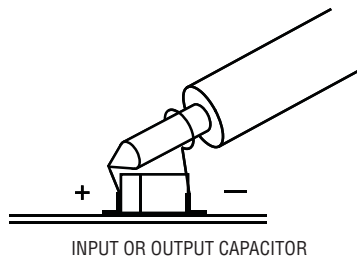

Figure 2. Proper Scope Probe Placement for Measuring Input or Output Ripple
5. To measure input and output ripple, please refer to Figure 2 for proper setup.